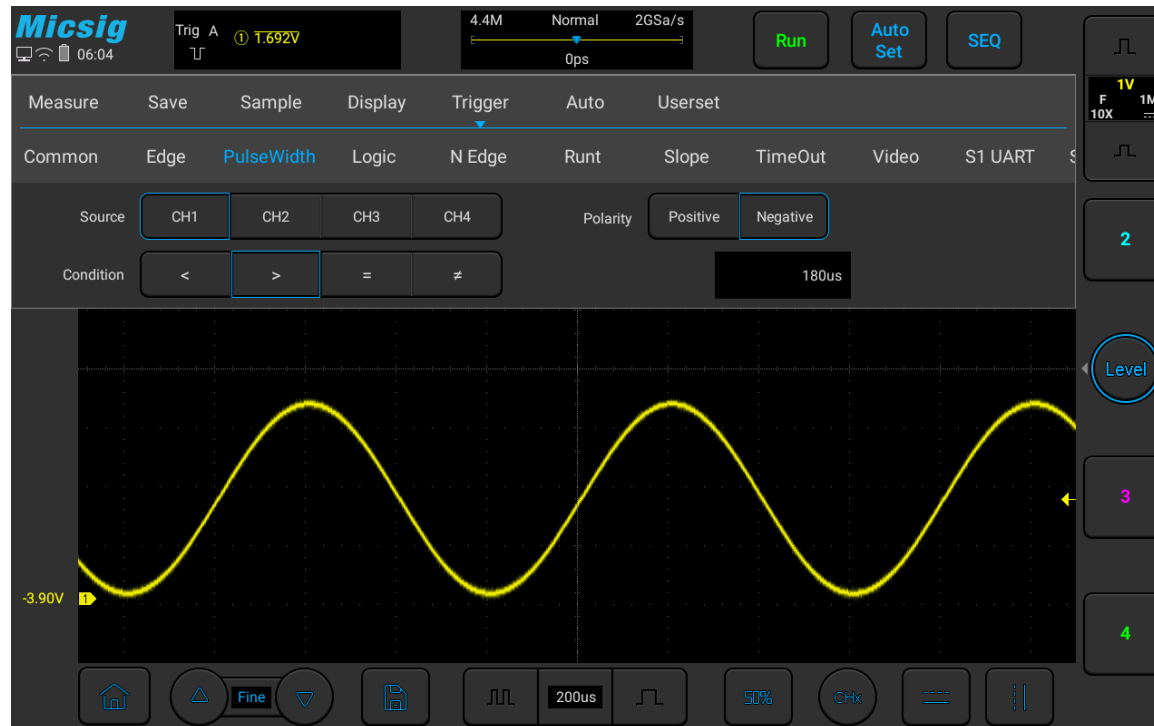

Figure 5-15 Negative Polarity Pulse Level Flip
lower than current trigger level (CH1 negative pulse indication icon $\square \sqcup$ ① 1.00V). When triggered on positive polarity pulse, if the restrictions are true, the trigger will happen on the high-to-low transition of the pulse; when triggered on negative polarity pulse, if the restrictions are true, the trigger will happen on the low-to-high transition. (Figure 5-15 Negative Pulse Level Flip)